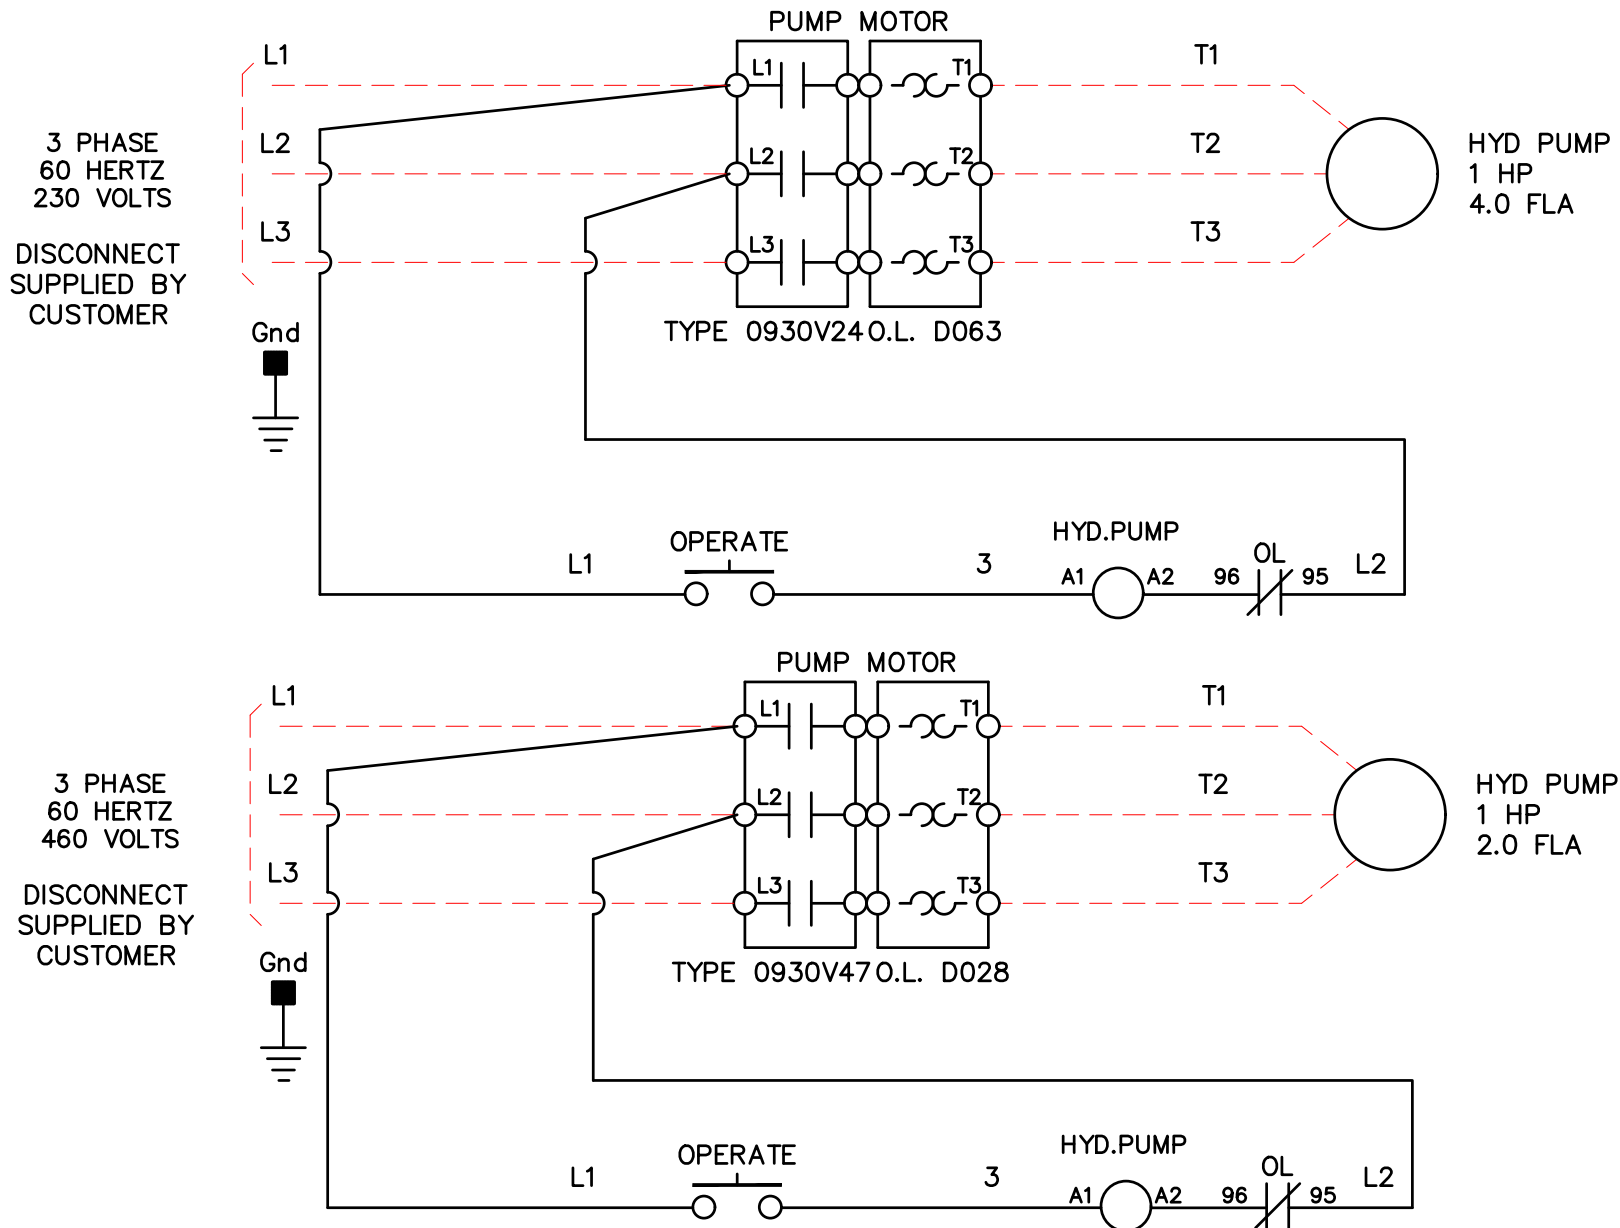

Figure 17
4. Once weld work on the rear of the leveler has been completed, finish wiring the controller to incoming service per the electrical wiring diagrams, as shown in **Figure 16** and **Figure 17**. All electrical wiring should be performed by a qualified electrician. Lockout/tagout the service line disconnect before performing any electrical work.